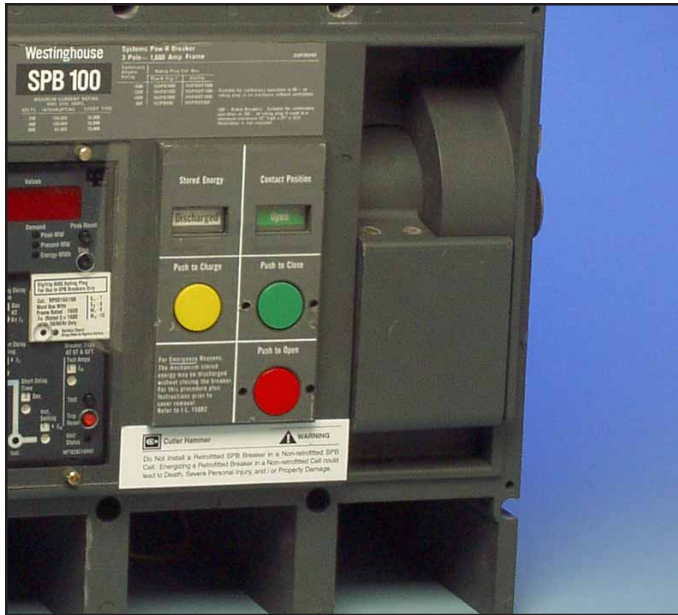

Fig. 53 Breaker Front Cover and Charging Handle Installed on a Small Frame Breaker
- For Breakers with Zone Interlocking Only:** To defeat Zone Interlocking for testing, two (2) jumpers must be installed on Terminal Block # 1 on the Cell Harness: one (1) between the "SIN" and "SOUT" terminals; and one (1) between the "GIN" and "GOUT" terminals (see Figure 53).
- For Breakers with Negative Power Only:** To defeat Negative Power for testing, one (1) jumper must be installed on Terminal Block # 1 on the Cell Harness: between the "DG" and "NEG" terminals (see Figure 53).